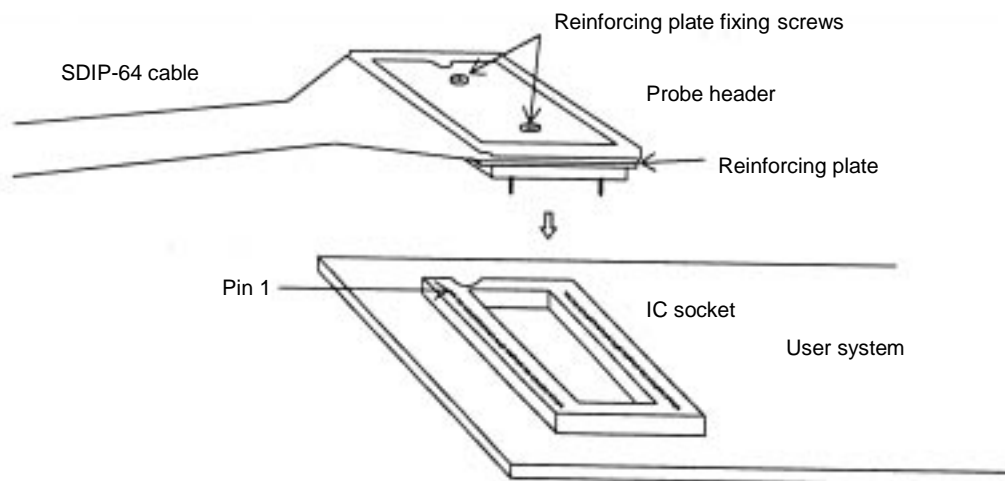

Fig. 1 Connection of SDIP-64 Cable
- To connect the cable and user system, insert the cable probe header into the IC socket on the user system, positioning both as shown in *Fig. 1*.